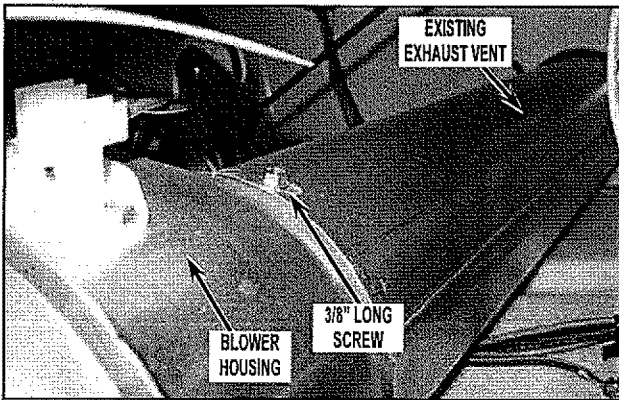

FIGURE 5
- Remove the existing exhaust vent by removing one (1) 3/8" long screw that secures the vent to the blower housing outlet. See Figure 5.